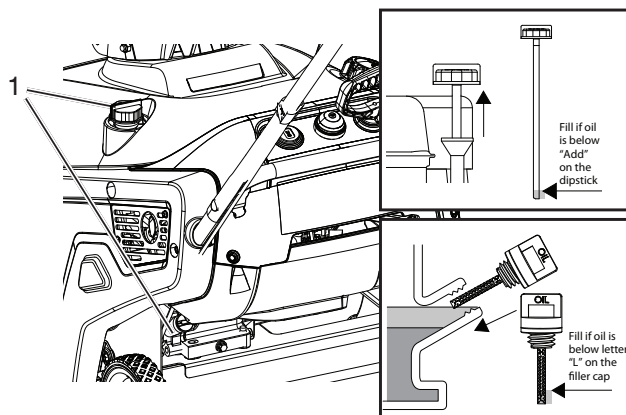

Figure 6
2. Clean around the dipstick (Figure 6).